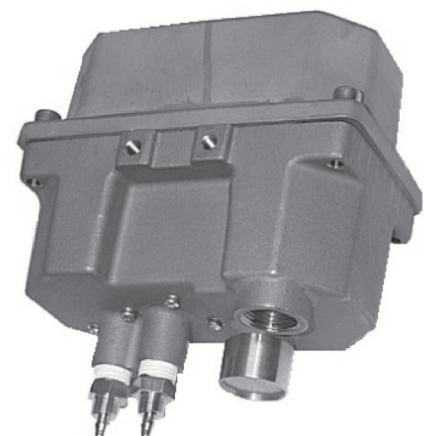

Fig. 2: Type 6111, field unit for offshore applications
- Type 6111 as a field unit for offshore applications (Fig. 2) Mounted using a bracket